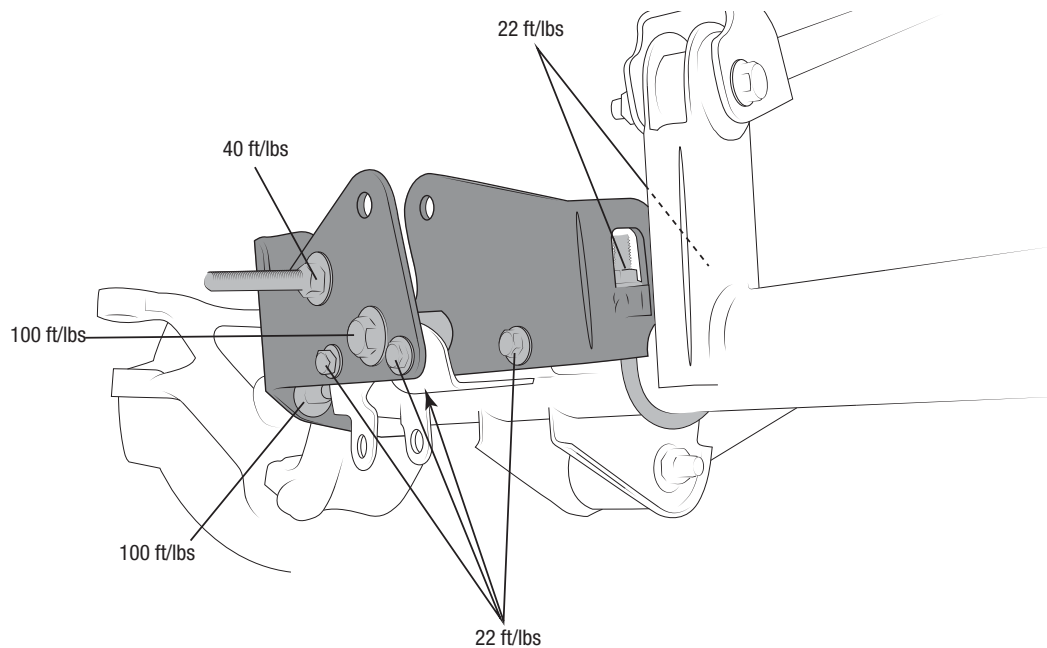

Figure 22
- B. Add the supplied u-bolt and nuts (visible in Fig. 22).